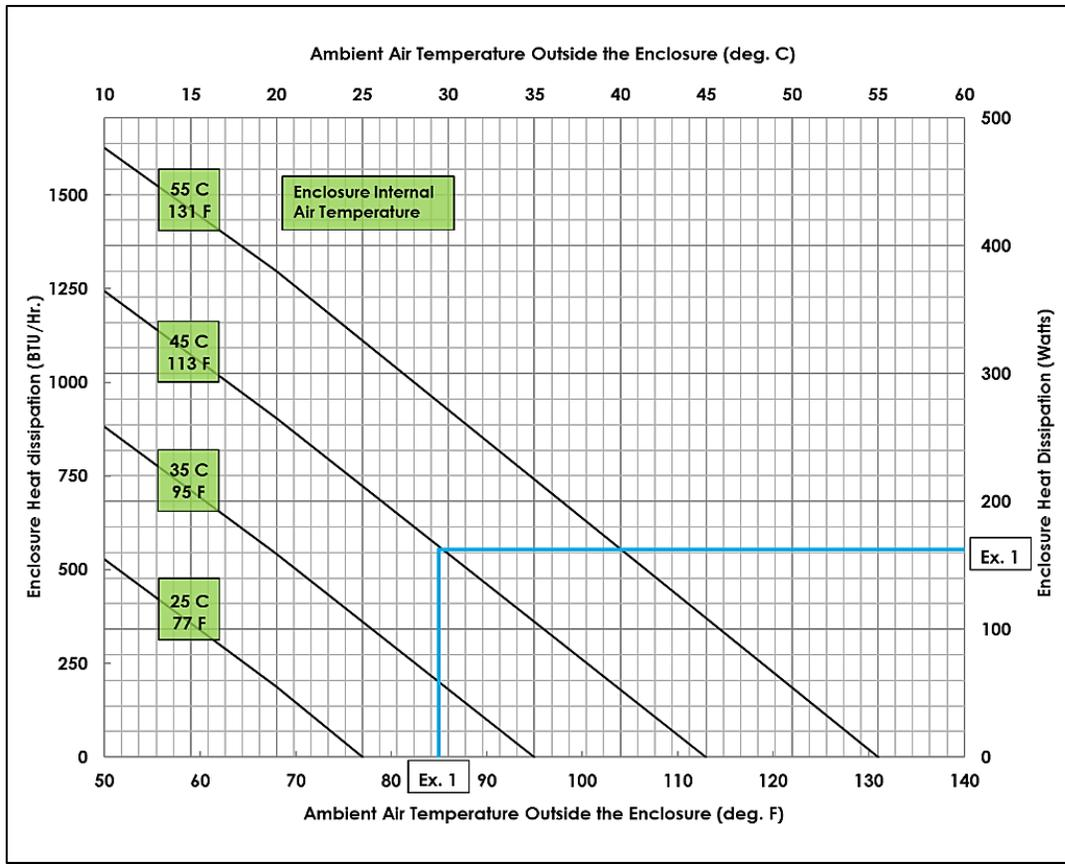

Figure 3: Z23 Enclosure Thermal Guideline – Sealed
5. Figure 3 provides a guide for a sealed Panduit Z23 enclosure heat dissipation for various external ambient temperatures.